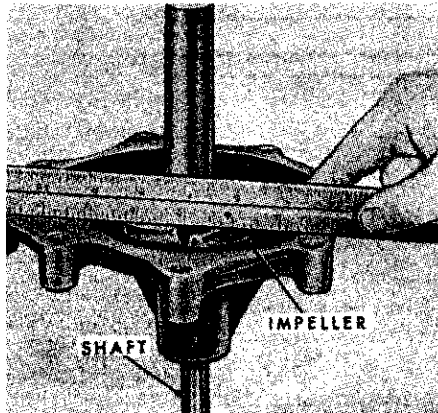
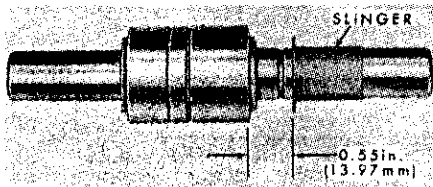
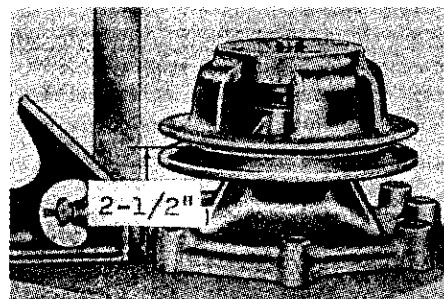

Fig. 158—Press impeller onto shaft with $\frac{3}{4}$ -inch I.D. pipe so that impeller is flush with rear of housing as shown.
Fig. 157—Flange of water slinger should be 0.55 inch from edge of outer bearing race as shown above.
Fig. 159—Press pulley onto shaft so that distance from center of belt groove in pulley is 2 $\frac{1}{2}$ inches from rear face of housing.
Using a length of 1 $\frac{5}{16}$ inch I.D. pipe, press new seal into housing. Check to see that flange on water slinger (4) is located 0.55 from edge of bearing race as shown in Fig. 157, then press shaft into front of housing until outer bearing race is flush with front end of housing. Using a length of $\frac{3}{4}$ -inch I.D. pipe, press impeller onto shaft as shown in Fig. 158 so that impeller is flush with rear end of housing. Press pulley onto shaft so that center of belt groove in pulley is 2 $\frac{1}{2}$ inches from rear face of housing as shown in Fig. 159. Install rear cover with new gasket and tighten retaining cap screws to a torque of 18-22 Ft.-Lbs.